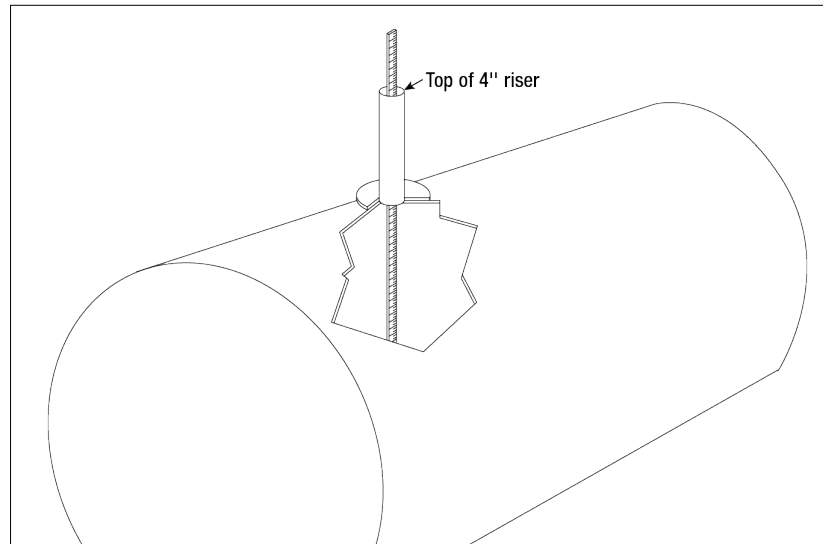

Figure 9. Measuring Tank
2. Measure the distance from the bottom of the tank to the top of the 4-inch riser pipe as shown in Figure 9.